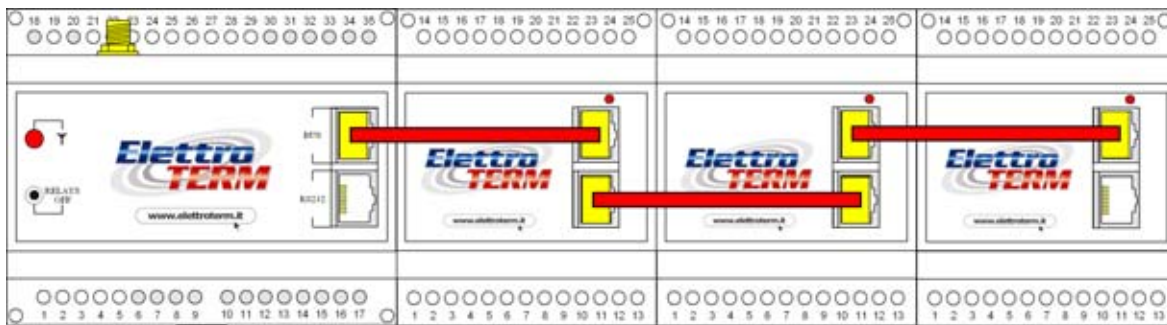

figure 1
- install any expansions as indicated in **figure 1**.